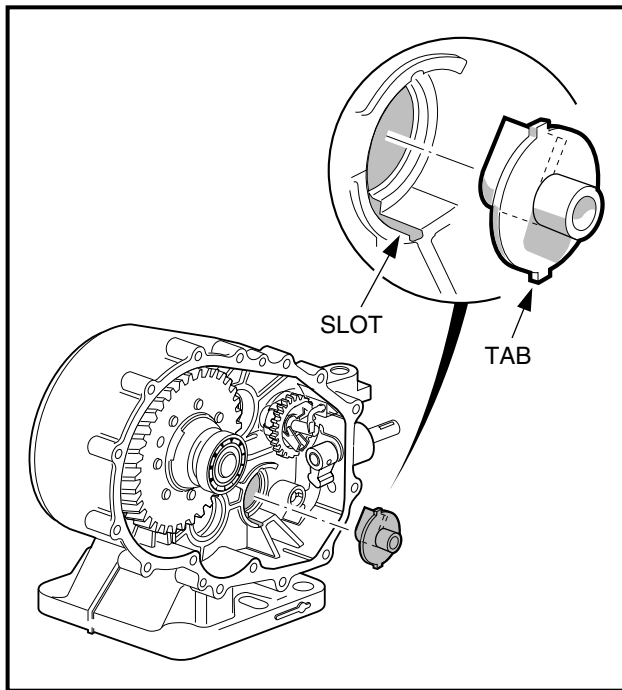

Figure 19-51 Oil Guide
- 7.3. Install the oil guide with the baffle toward the case wall (**Figure 19-51, Page 19-25**). Make sure the two tabs on the guide are positioned in the slots in the case.